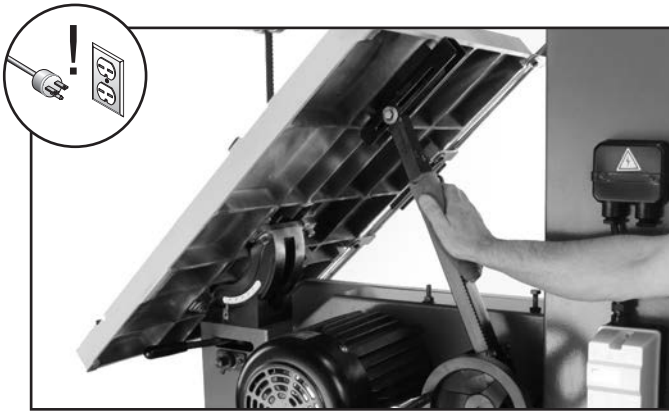

Figure 65. Lubricating table tilt rack and pinion assembly.
3. Move the table up to its maximum 45° angle and wipe off all existing grease and sawdust buildup from the rack (see **Figure 65**).